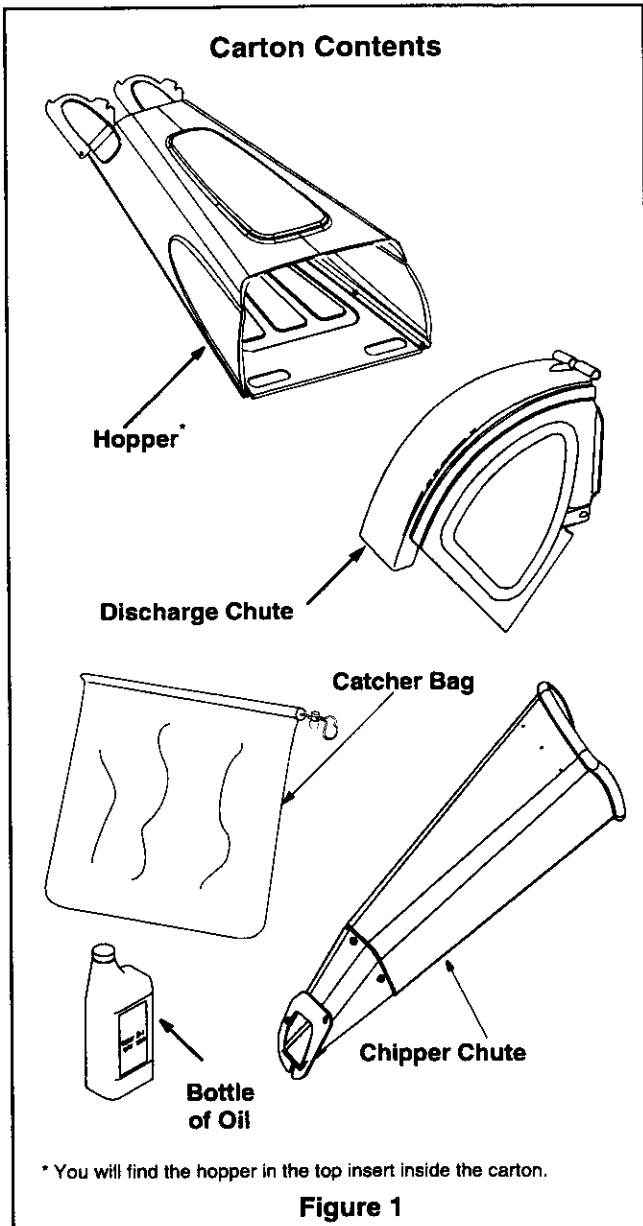

Figure 1
- Remove all loose parts including owner's manual. See figure 1.
(Refer to figure 1.)
- e. Safety Glasses (not shown in figure 1)
- f. Owner's Manual (not shown in figure 1)